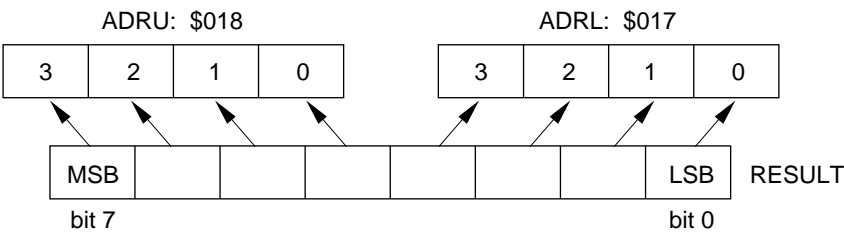

Figure 51 A/D Data Register
- The A/D data register is a read-only register consisting of a lower 4 bits and upper 4 bits (ADRL: \$017, ADRU: \$018). This register is not cleared by a reset. Data reads during A/D conversion are not guaranteed. After A/D conversion ends, the resultant 8-bit data is set in this register and held until the start of the next conversion (figures 51 to 53).